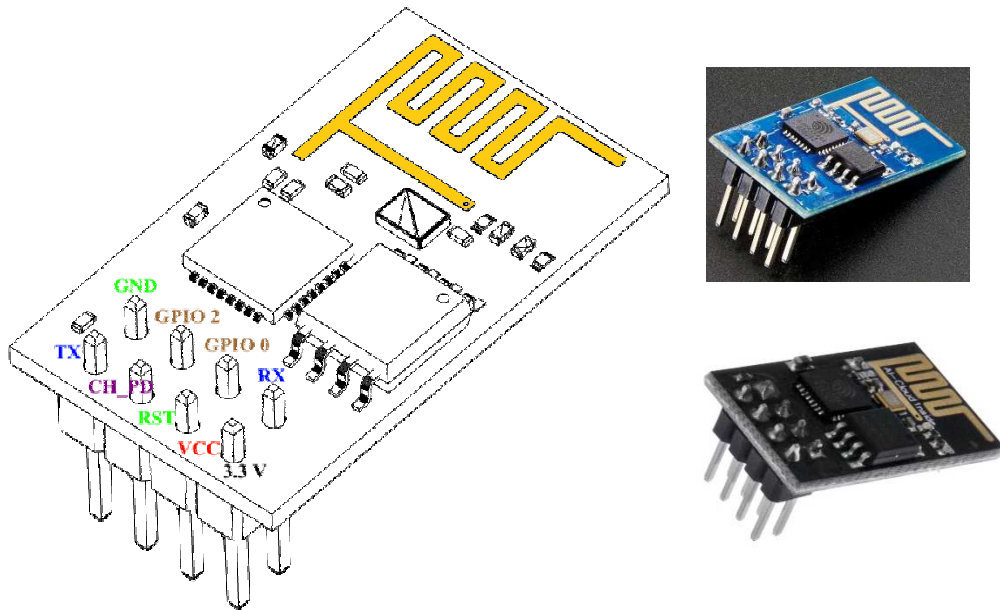

Figure 1: ESP8266-01 Pinout and Commonly Available Modules.
Fig. 1 shows the ESP8266-01 breakout model, which basically has the “minimal” pinout required for operation as well as the printed/PCB antenna. In this report, the pinout is basically used for:
Fig. 1 also shows two of the most common modules available for purchase since several years.
- A few extra available pins for I/O controlled from the ESP8266 itself, while maintaining the pins already described for the ESP8266-01 in Fig. 1: Vcc (3.3v), GND, CH_PD, Rx, Tx, and GPIO0.